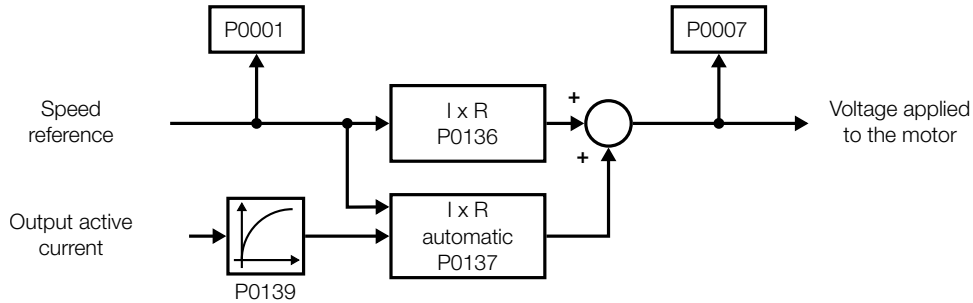
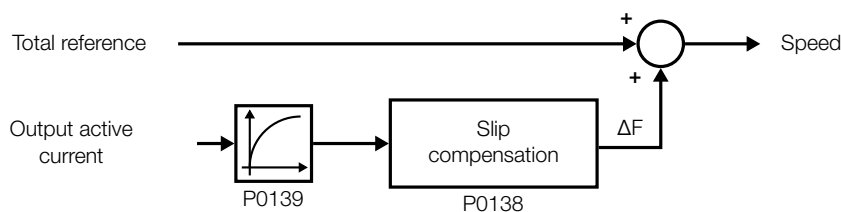

Figure 5.10: Block diagram of P0137
Figure 5.12: Block diagram P0138 (scalar)
- See Figure 5.10 on page 5-19 and Figure 5.12 on page 5-19.